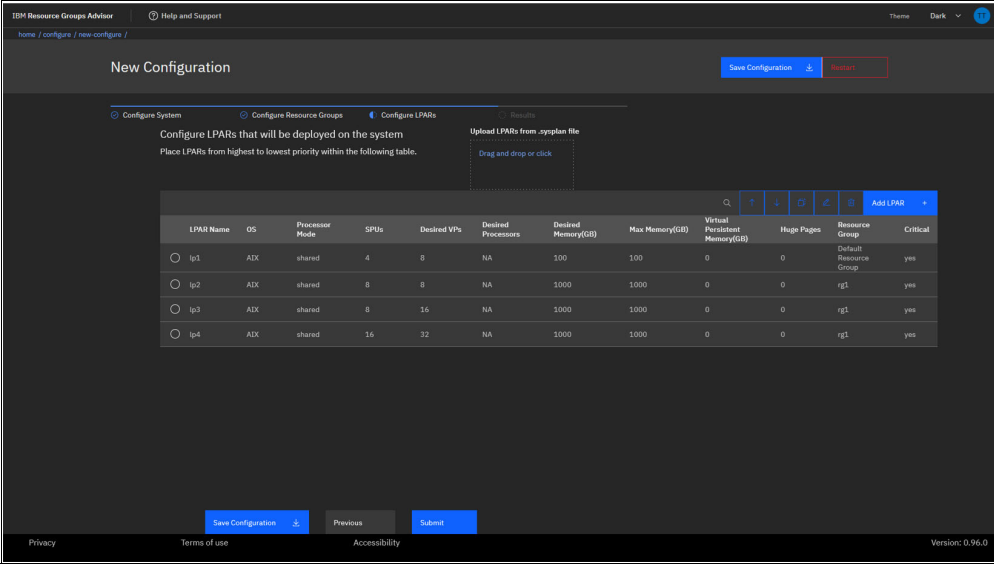

Figure 9-11 LPAR configuration
8. Figure 9-11 on page 191 shows an LPAR summary screen.